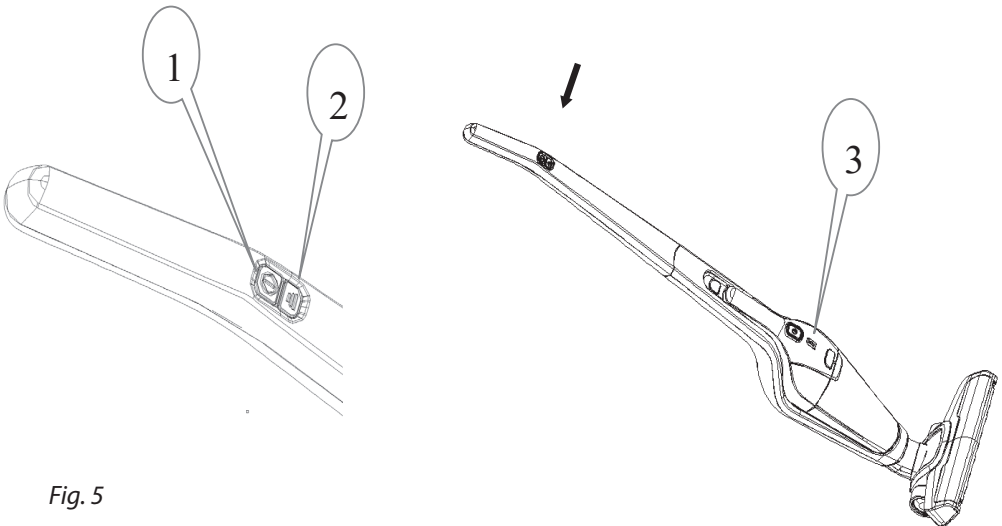

Fig. 5
There are two switches including power switch (1) and power regulation button (2) (see Fig. 5). Press down power switch (1), the motor starts to run, the floor brush indicator turns on and the appliance enters into working condition; Press down the power regulation button (2), the cleaner will change to the Turbo Mode in which it achieves a much better cleaning performance on a hard-to-clean surface. Once the power regulation button is press again, the cleaner will change back to the Normal Mode in which the cleaner will have a longer running time. Press the power switch (1) if you want to make the appliance stop working. During operation, please pay attention to charge quantity indicators (3), the indicators will extinguish gradually as the charge quantity reduces and the appliance will stop working automatically when all the indicators extinguish.